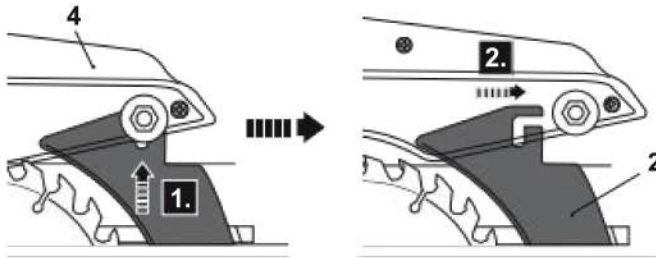

Fig. 24
- > Pull the blade cover (4) upwards, and then push the blade cover outwards to remove it from the riving knife (2) (fig. 24).